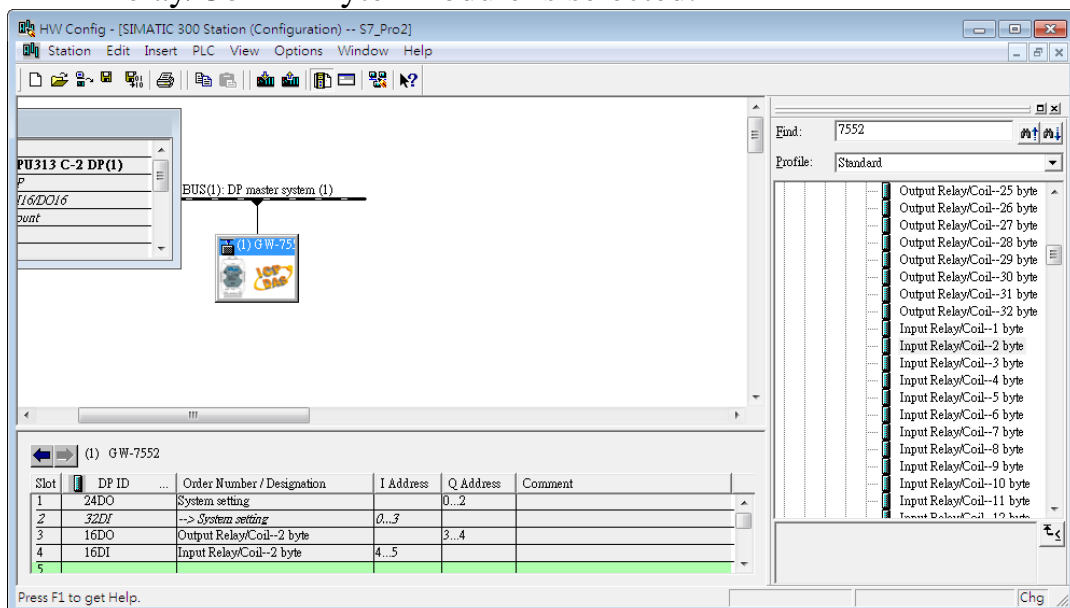

Figure 41 Add modules
Step 4: Set the GW-7552-B modules, as shown in figure 41 and 42.